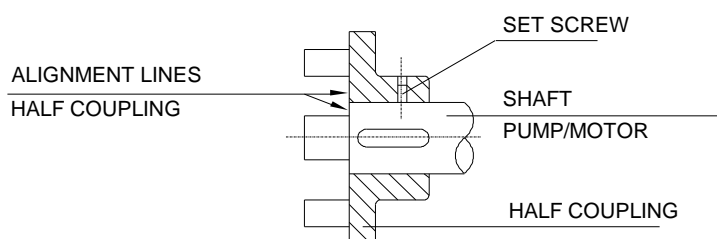

Fig. 5
- 1 - Thoroughly clean motor/pump shaft ends and shaft keys, place the shaft keys in the proper key way slots and fit the coupling halves in line with the shaft ends. The use of rubber hammers and even pre-heating of the metal half couplings may be required (see fig. 5). Lightly tighten the set screws. Verify that both pump and motor shafts rotate freely.